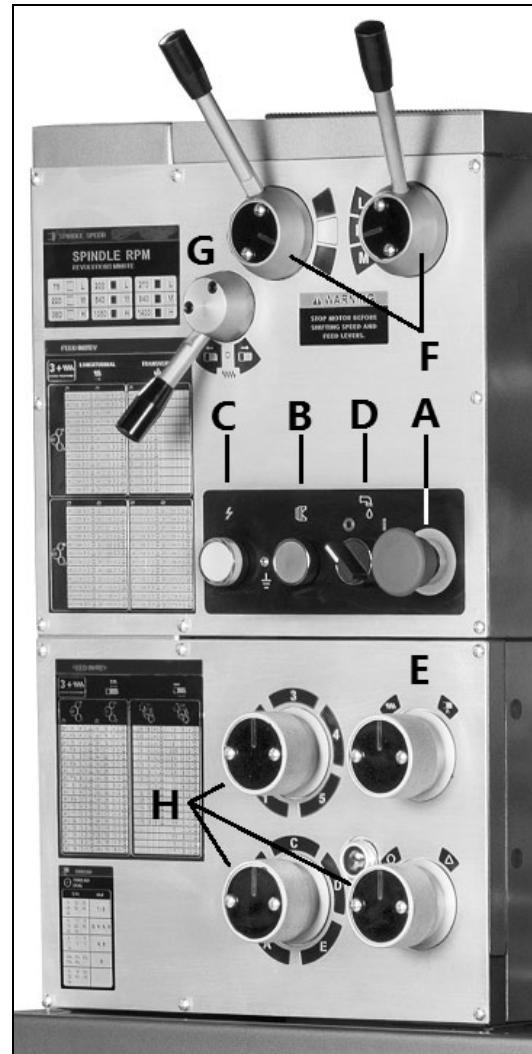

Figure 9-1
1. **Emergency Stop Switch** (A, Figure 9-1) – Press to stop all machine functions. **Caution:** lathe will still have power. Turn clockwise to re-set.
2. **Jog Switch** (B, Figure 9-1) – Press and release to advance spindle momentarily.
3. **Power Indicator Light** (C, Figure 9-1) – Illuminates whenever lathe has power.
4. **Coolant On-Off Switch** (D, Figure 9-1) – Turns coolant pump on and off.
5. **Feed Rod/Leadscrew Selector** (E, Figure 9-1) – Use knob to activate leadscrew and feed rod.
6. **Speed Selector Levers** (F, Figure 9-1) – Use to select spindle speeds in ranges.
7. **Feed Direction Selector** (G, Figure 9-1) – Selects carriage travel direction when chuck is rotating in forward direction (or counter-clockwise as viewed from front of chuck).
8. **Feed Rate Selector** (H, Figure 9-1) – Use knobs to set desired feed, or lead rates.